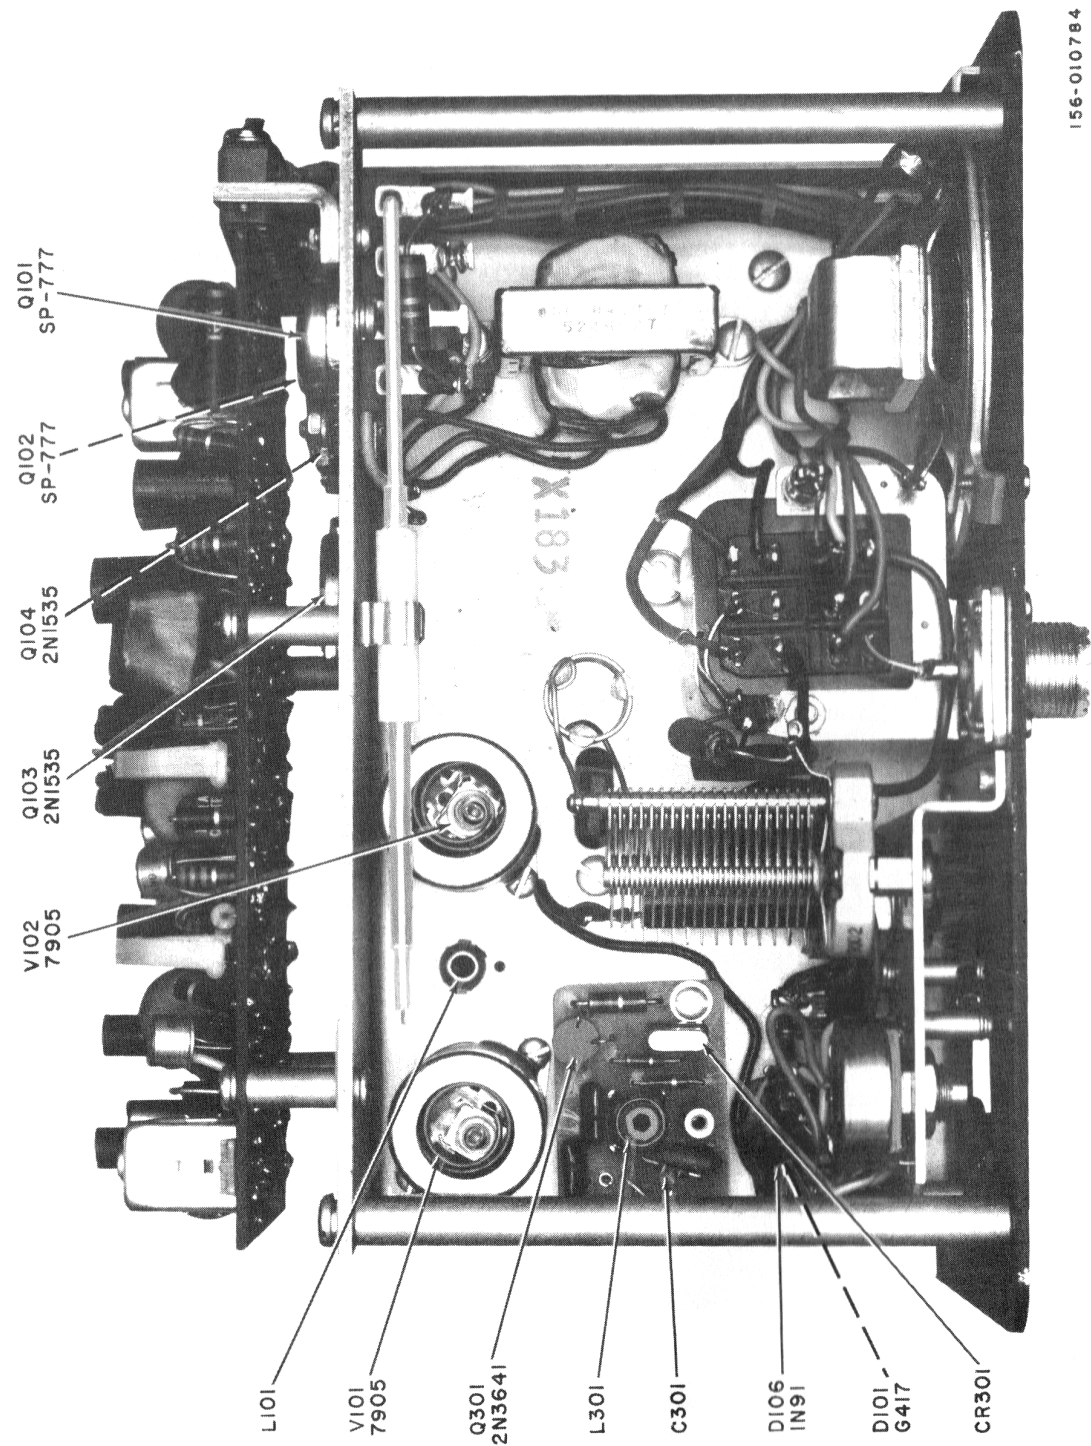

Figure 3. Transceiver Top View, Crystal, Transistor, Vacuum Tube and Adjustment Locations.
e. Refer to figure 3 and note location of transmitter crystal CR301 in the transmitter section. The frequency and letter "T" stamped on the crystal case denotes channel frequency and transmitter application. **DO NOT ATTEMPT TO USE CRYSTALS WITH OTHER MARKINGS, UNLESS CRYSTAL FREQUENCY AND MODE OF OPERATION ARE KNOWN.** The equipment is normally shipped with crystal CR301 installed and pre-aligned for the channel frequency indicated on the crystal. In the event crystal CR301 is not installed, or of the improper channel frequency, obtain the proper crystal, install and complete alignment procedures of paragraph 17 of this section.